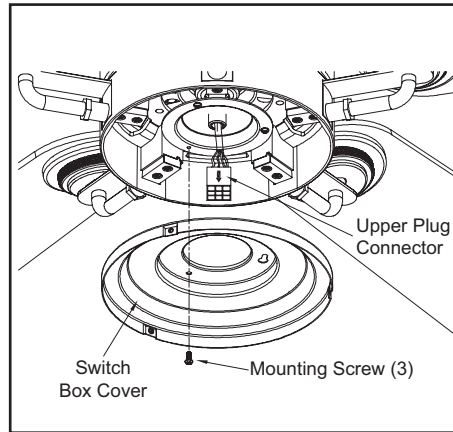

Figure 14
1. Remove one screw from the black bracket from the fan motor assembly. Loosen, but do not remove the other two screws. Align the key hole slots in the switch box cover with the two screws in the black bracket. (Figure 14)
2. Turn the switch box cover clockwise until the two screws are situated in the narrow end of the keyholes. Re-install the one screw that was removed in step 1. Tighten all screws firmly. (Figure 14)